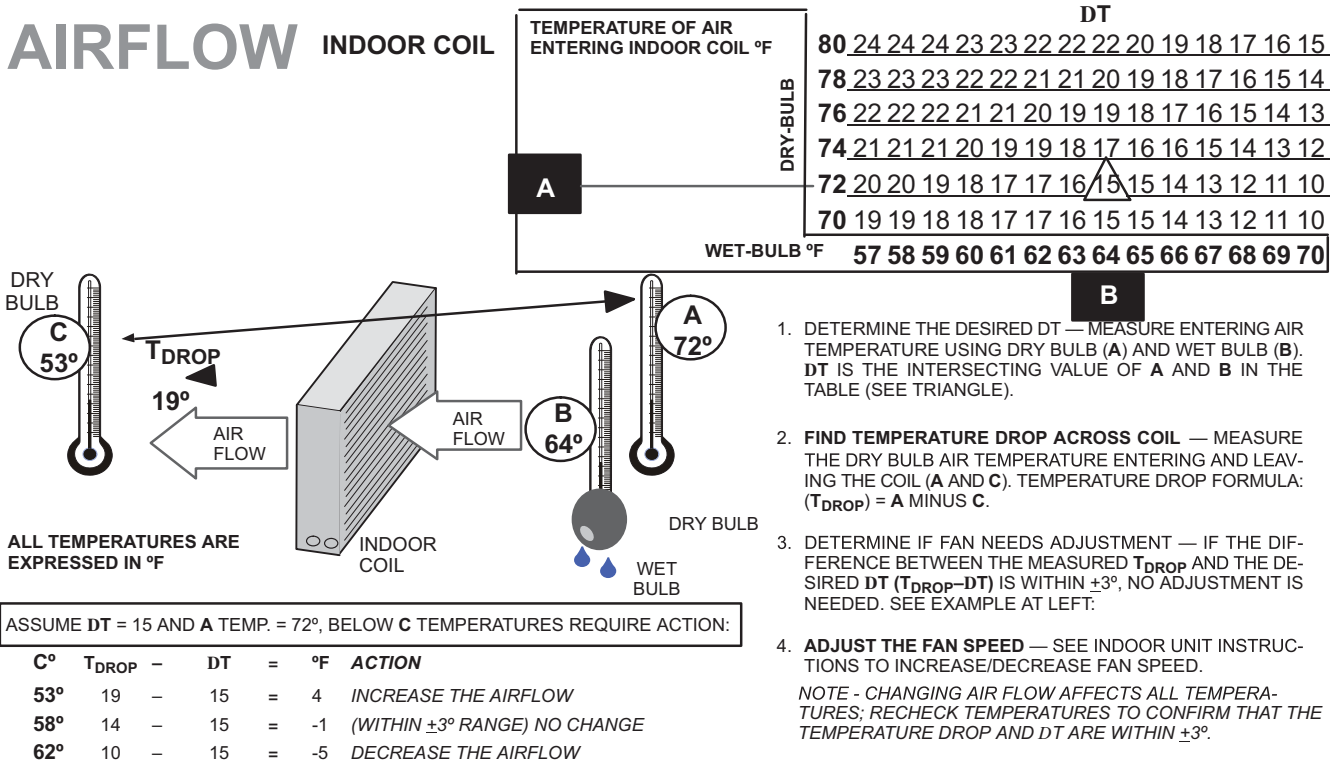

Figure 49. Checking Indoor Airflow over Evaporator Coil using Delta-T Chart
- Check and adjust indoor airflow as described in Figure 49.
Check airflow using the Delta-T (DT) process using the illustration in Figure 49.